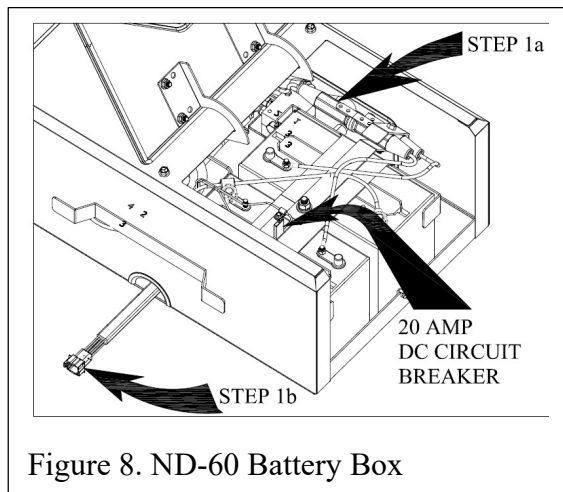

Figure 8. ND-60 Battery Box
**Note:** Check the on-board batteries shown in Figure 8 to ensure they are properly charged. A properly charged battery will read over 12.9 Volts. If batteries need charging, ensure Multi-drill is not connected to the towing vehicle's battery.
**Important:** When the on-board battery being used is drained, the 20 AMP DC Circuit Breaker, Figure 8, will be tripped. Simply moved the main power lead (illustrated as STEP 1a in figure 8) from one battery to the other and reset the breaker to continue operation. Other helpful battery
First, connect the main power lead to one of the two charged batteries (Figure 8, **STEP 1a**). Next, install wiring harness connecting the battery box (Figure 8, **STEP 1b**) to the towing vehicle's battery. This harness includes the lanyard tethering the switch box to the operator. Ensure this wiring harness